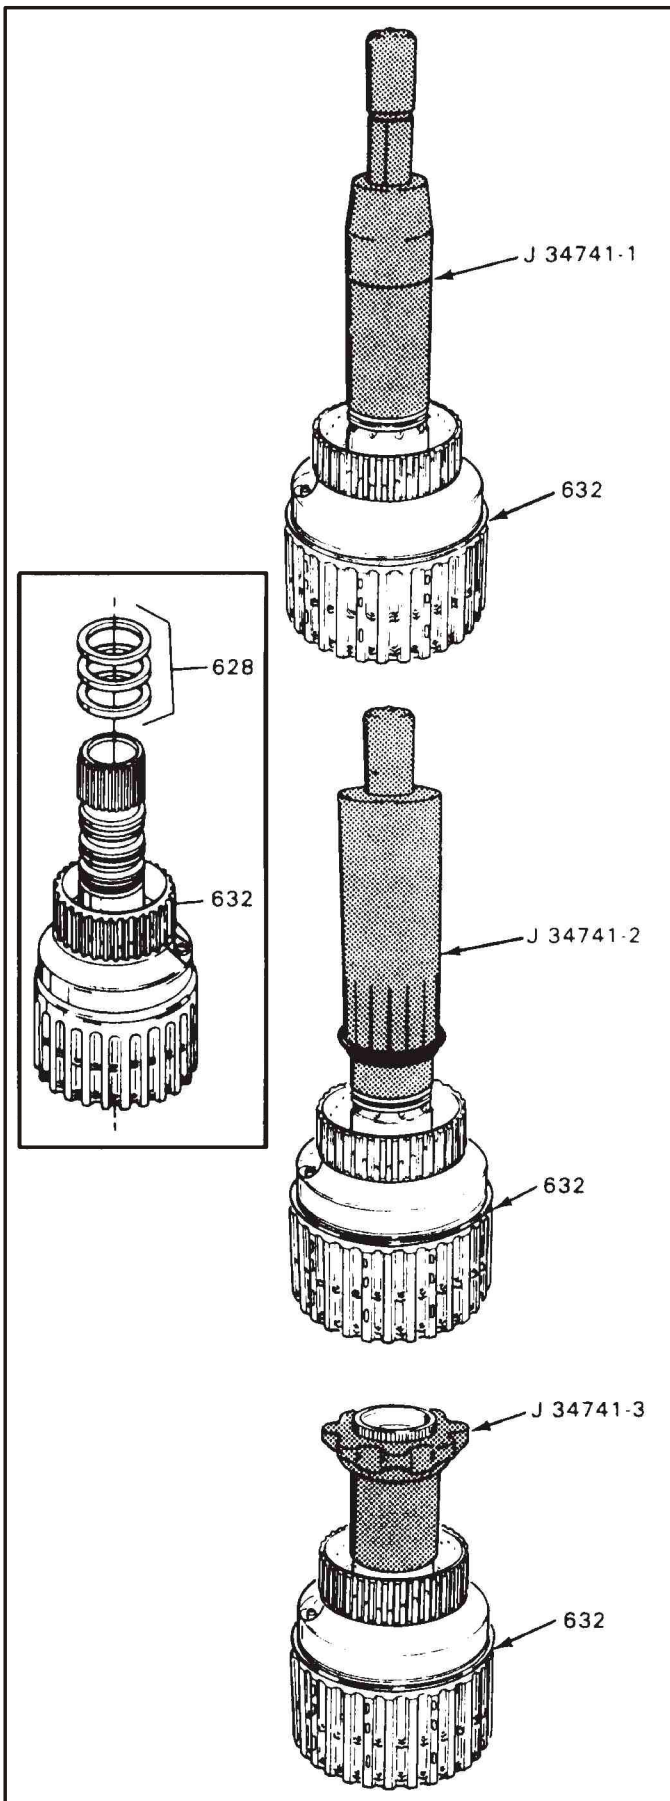

Figure 116
41. Adjust the J-34741-1 tool so that the bottom of seal installer matches the bottom seal groove. Refer to Figure 116.
43. Using J-34741-2 over the seal on J-34741-1, quickly push the seal into position in its groove on the input housing shaft (See Figure 116).
45. After all three solid seals are in place, re-size the seals with J-34741-3, gently working the re-sizing tool over the seals with a twisting motion (See Figure 116).